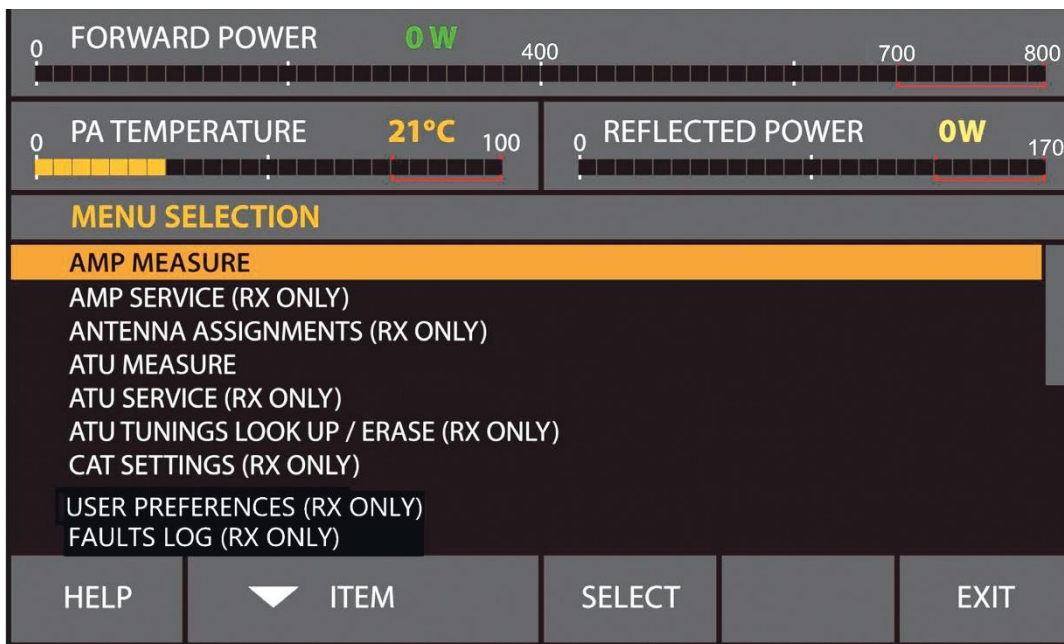
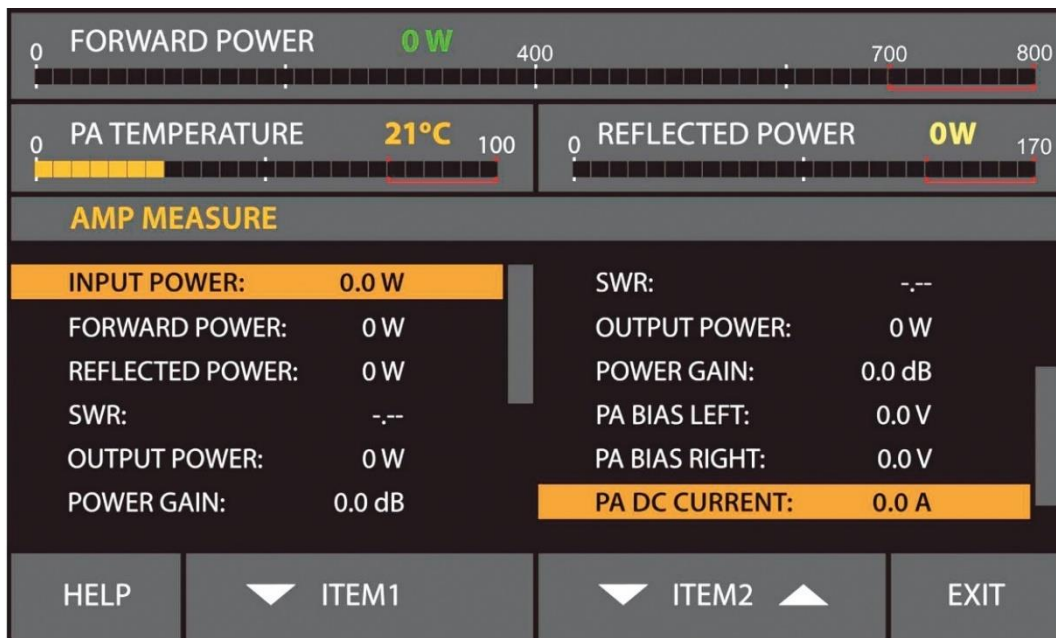
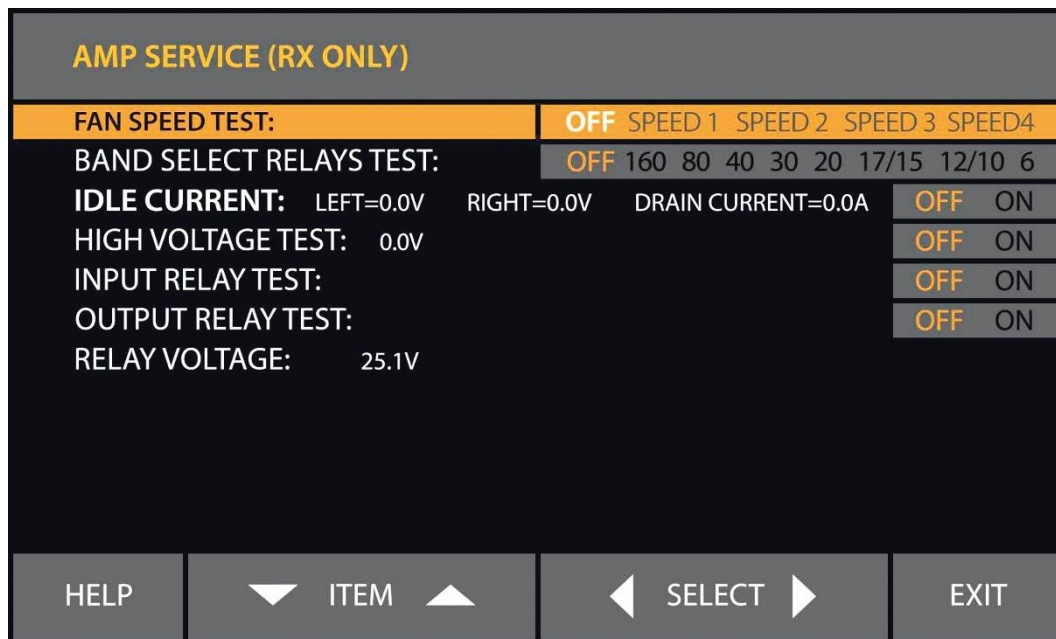

Figure 5-1 MENU SELECTION
Figure 5-2 Menu AMP MEASURE
Figure 5-3 Menu AMP SERVICE
Enter the MEASURE menu (see Figure 5-2 Menu AMP MEASURE) and check:
Access to the Operate mode can be locked in the AMP SERVICE menu, the OPERATE ACCESS user setting (see Section 5.2 Menu AMP SERVICE \(Amplifier Service Functions\) and Figure 5-3 Menu AMP SERVICE).
By pushing the MENU button (the rightmost on *Figure 3-2 Basic screen*) the user invokes the MENU SELECTION screen (see *Figure 5-1 MENU SELECTION*). Each menu can be selected by the ITEM (up and down) buttons and SELECT. These are described in Sections 5.1 through 5.6 below.
The menu AMP MEASURE (see *Figure 5-2 Menu AMP MEASURE*) is accessible from the MENU SELECTION screen (see *Figure 5-1 MENU SELECTION*) in all modes. Here you can constantly observe the values of eleven parameters.
The amplifier service menu (see *Figure 5-3 Menu AMP SERVICE*) is accessible from the MENU SELECTION screen (see *Figure 5-1 MENU SELECTION*) at RX mode only.
The inactive functions are greyed out and the active are red. When leaving a function submenu, it is turned off and deactivated automatically. At pressing the EXIT button all service functions are turned off, and the MENU SELECTION screen comes back (see *Figure 5-1 MENU SELECTION*). At consecutive pushing of the EXIT button, the basic screen returns (see *Figure 3-2 Basic screen*).
The CAT settings are accessible only in RX mode (see *Figure 5-1 MENU SELECTION* and *Figure 5-4 Menu CAT/AUX SETTINGS*). An item is selected by the ITEM buttons (up and down). Values are selected by the SELECT buttons (left or right).
In order to confirm the selected action, the operator must push the ACTION - left (YES) button once more. After restoring the default settings, the control will return to the MENU SELECTION screen (see *Figure 5-1 MENU SELECTION*). If the ACTION - right (NO) button is pressed, the "NO" is selected again, and the control will not leave the current position. At pressing the EXIT button in this position, the control leaves this menu without changing anything and returns in the previous window (the MENU SELECTION screen - see *Figure 5-1 MENU SELECTION*).